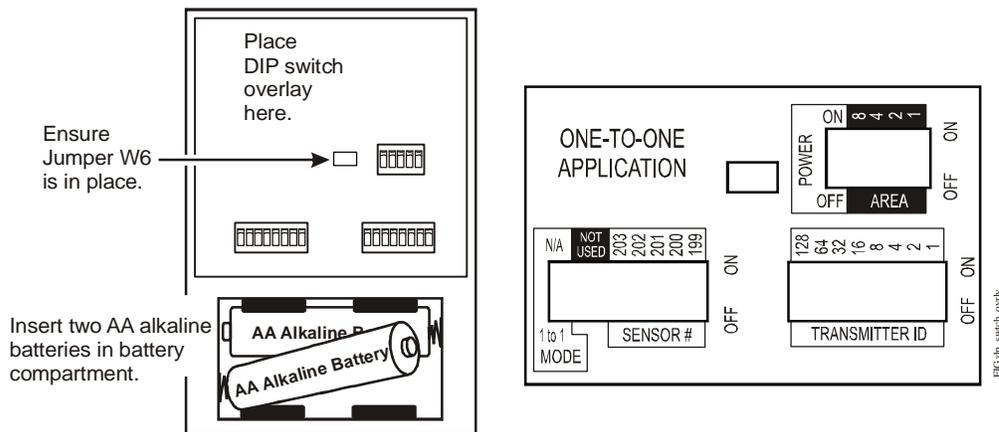

Figure 7: Back of the WRZ Series Sensor Housing and One-to-One Application DIP Switch Overlay
3. Check the **AREA** DIP switch block on the back of the associated sensor and be sure that the **POWER** switch is set in the **OFF** position (Figure 7). See *Setting the WRZ Series Sensor RF Address* for more information.
2. Move the **ONE-TO-ONE APPLICATION** DIP switch overlay card over the DIP switches (Figure 7).
6. Match the receiver RF address by setting the numbered switches on the **AREA** DIP switch block and on the **TRANSMITTER ID** DIP switch block to the same positions as the numbered switches on the **AREA** and **TRANSMITTER ID** DIP switch block on the associated receiver (Figure 7).